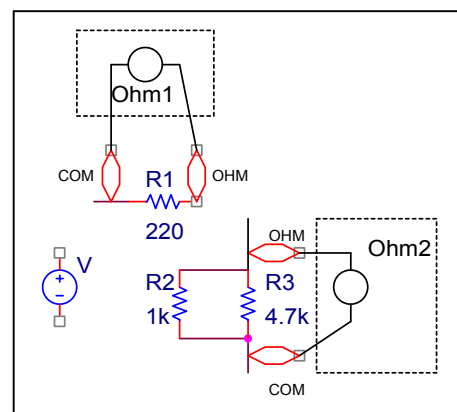

Figure 1.13 Resistance measurements
- Connect the test leads to the points of measurement indicated in Figure 1.13, and record the measured values and ohmmeter ranges used in Table 1.1 of the Lab Measurements Sheet.